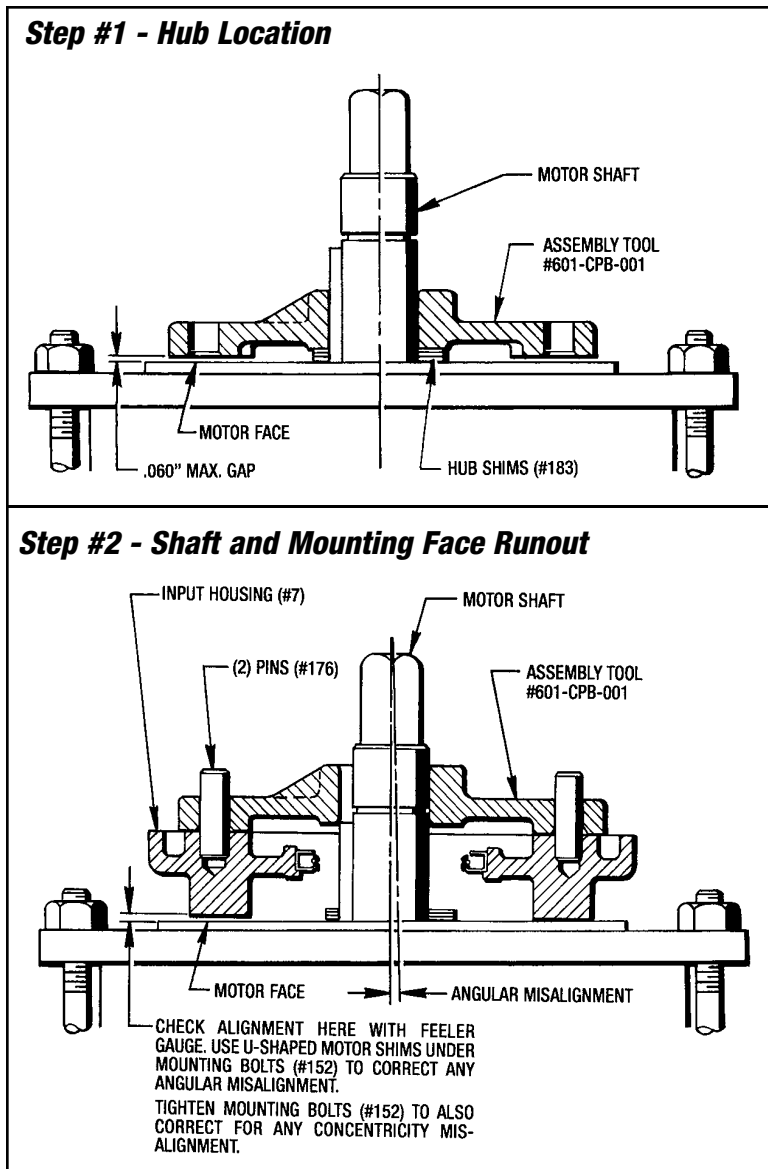

Figure 3.1 - Curing Press Motor Brake Installation
(See Figure 3.1)
1. Place enough Hub Shims (#183) on the motor shaft so there is a gap under the Assembly Tool as shown in Figure 3.1. **The Maximum Gap is .060"**.
1. Place the **Assembly Tool #601-CPB-001** over the (2) Dowel Pins (#176) until it rests on the Input Housing (#7) as shown in Figure 3.1.